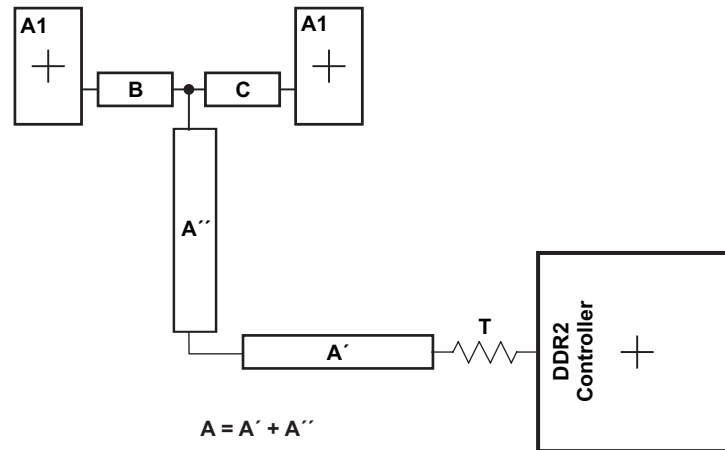

Figure 8-42. CK and ADDR_CTRL Routing and Topology
Figure 8-42 shows the topology of the routing for the CK and ADDR_CTRL net classes. The route is a balanced T as it is intended that the length of segments B and C be equal. In addition, the length of A ($A'+A''$) should be maximized.
(1) The length of segment $A = A' + A''$ as shown in Figure 8-42.
(2) Series terminator, if used, should be located closest to the device.
(3) Center-to-center spacing is allowed to fall to minimum (2w) for up to 500 mils of routed length to accommodate BGA escape and routing congestion.
(4) CACLM is the longest Manhattan distance of the CK and ADDR_CTRL net classes.